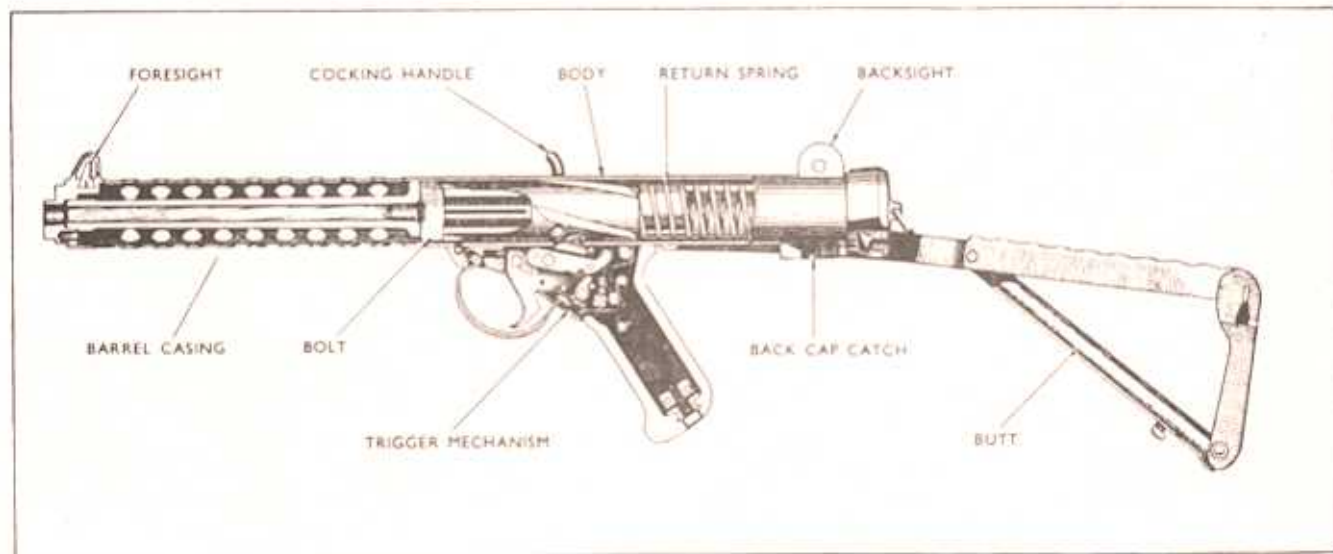

Fig. 1. Sectional arrangement
4.0 The weapon (Fig. 1) is operated by case reaction or "blow back".